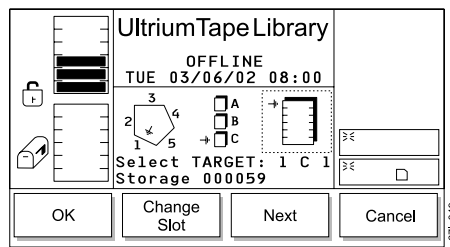

Figure 99. Change Slot Dialog
- b. Press the button below the **Change Magazine** softkey until the arrow in the middle icon points to the magazine that you want. Press the button below the **Next** softkey. The Change Slot Dialog displays (see Figure 99).